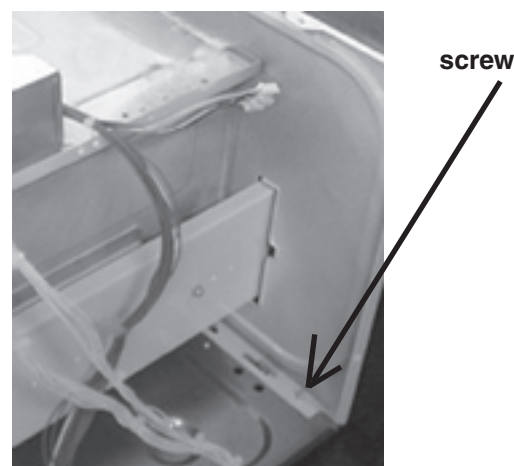

Fig. R-1
1. After disassembly as previously stated, remove Microwave Drawer assembly by removing (2) screws (**right & left**) from front of Microwave Baseplate (**Fig. R-1**).